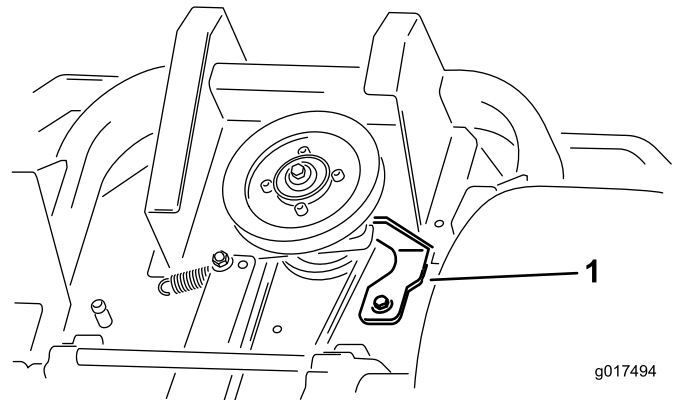

Figure 60
5. Remove the clutch stop shown in Figure 60.
9. Install the clutch stop shown in Figure 60.